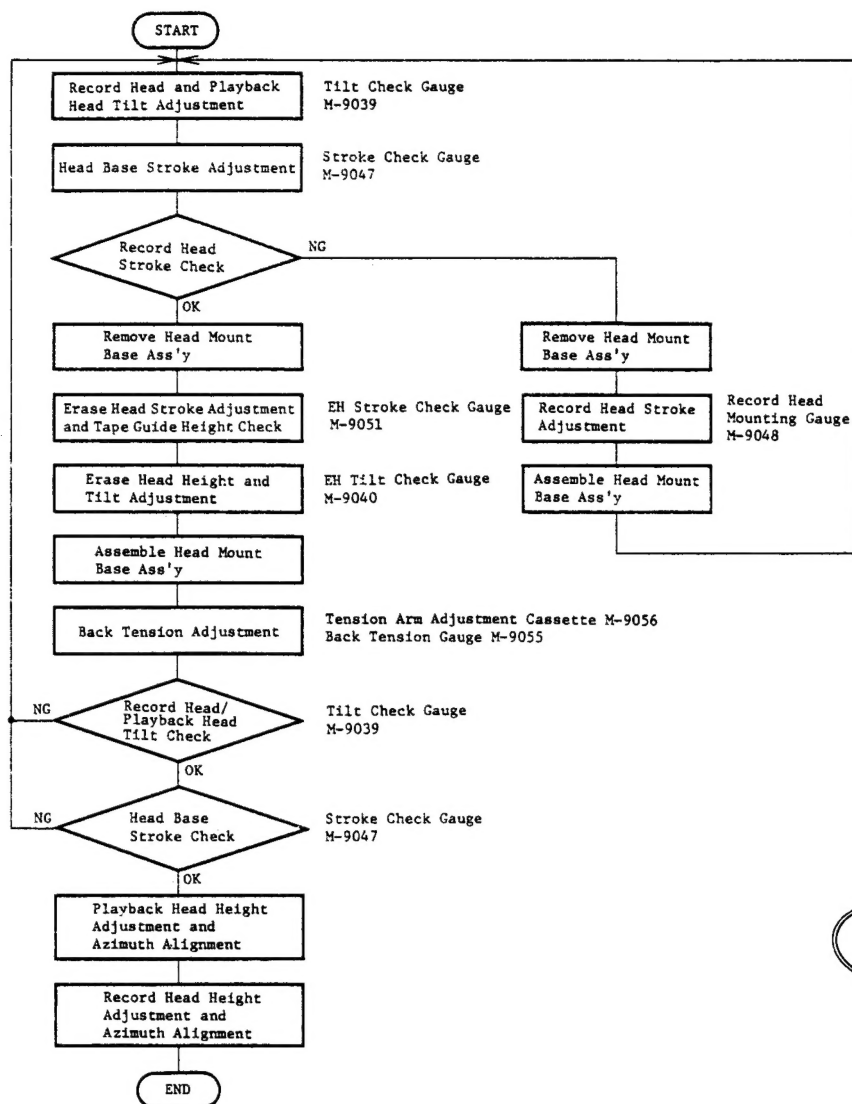
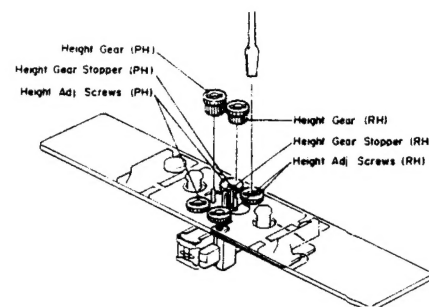

Fig. 2.2
Fig. 2.3
Note: On items 2.3 - 2.9, refer to Fig. 2.2 flow chart. Refer to Figs. 2.3 and 2.4.
- Beacon Playback Head "Lower" will light on when height adjustment screw (P) turned clockwise but Playback Head "Upper" when counterclockwise. Adjust so that both "Upper" and "Lower" will light on even when you move the slide knob to the direction of an arrow mark and then return it to the original place.
- Same procedures will apply to the Beacons Record Head "Upper" and "Lower", except for the height adjustment screw (R).
- Set the cassette deck in Stop mode and fit both of the serrated Height Gears. Then set the cassette deck again in Play mode and insure all of the 4 Beacons are illuminating. If not, (3) through (7) will have to be repeated till satisfactory results are obtained.